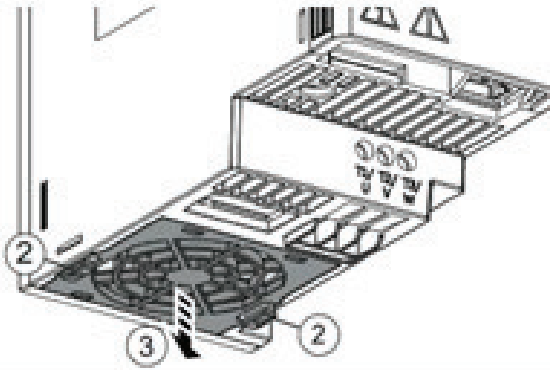

Fig. 59 — Remove ACH180 Cooling Fan
2. Remove the module cooling fan(s). See Fig. 59.